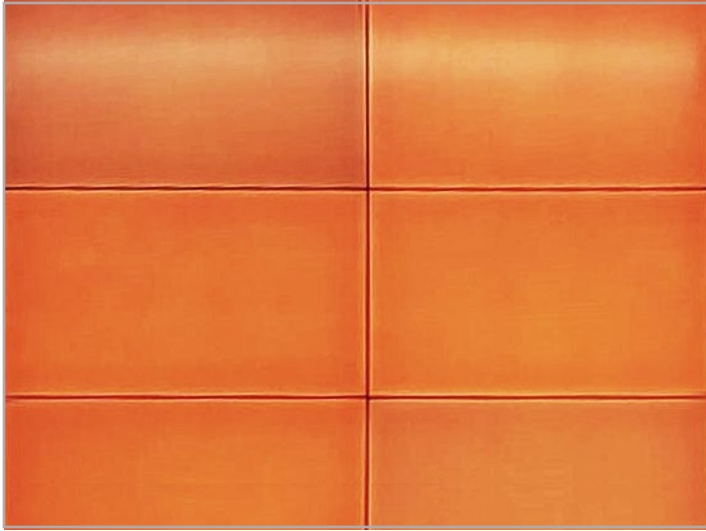

Figure 2.3
- In response to the problem of inconsistent colors in the solid color screen raised by the customer, first confirm that the white screen has been debugged, and then refer to the following method, the effect is shown in the figure 2.3